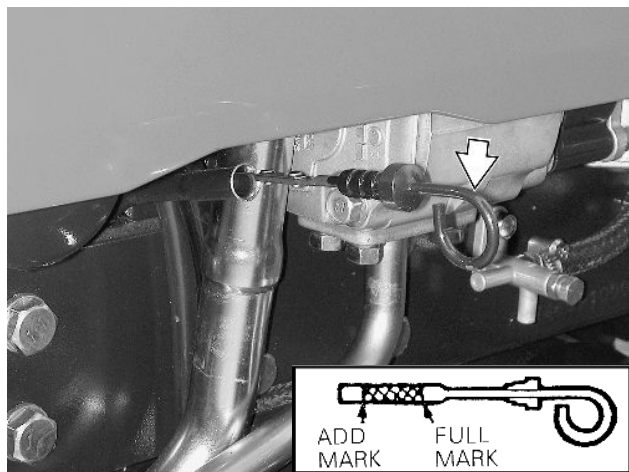

Figure 48 - Engine Oil Level Dipstick
1. With the tractor standing level, and after the engine has been stopped for a period of time, check the oil level with the dipstick, Figure 48.